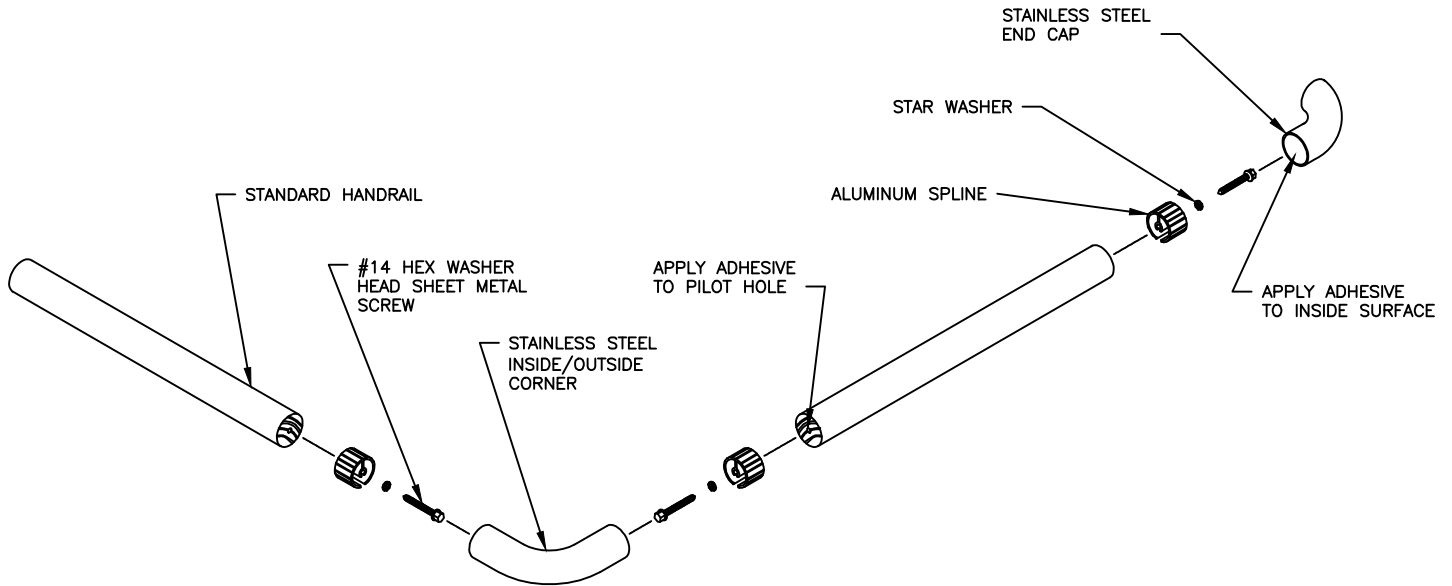

FIGURE 1.
1. DUE TO WOOD BEING A NATURAL PRODUCT, COMPONENTS MAY GROW AND SHRINK AT DIFFERENT RATES. BECAUSE OF THIS, C/S HAS DESIGNED THIS HANDRAIL TO UTILIZE A BEVEL AS SHOWN IN THESE INSTRUCTIONS (SEE FIGURE 1). THIS BEVEL MUST BE APPLIED AT ALL WOOD JOINTS AND MUST MATCH FACTORY BEVEL ON END CAPS.